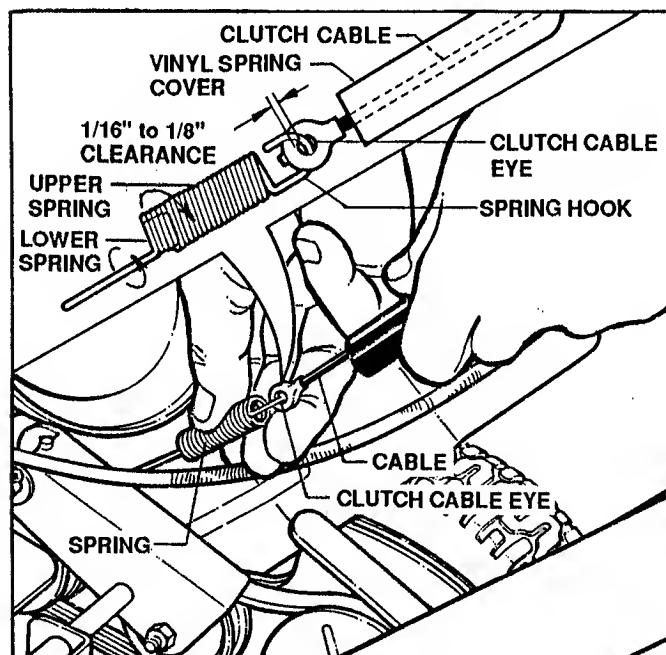

FIGURE 3.9
- A. The wheel drive control is properly adjusted when there is $1/16"$ to $1/8"$ clearance between the inside of the spring hook and the inside of the clutch cable eye when disengaged. See Figure 3.9.